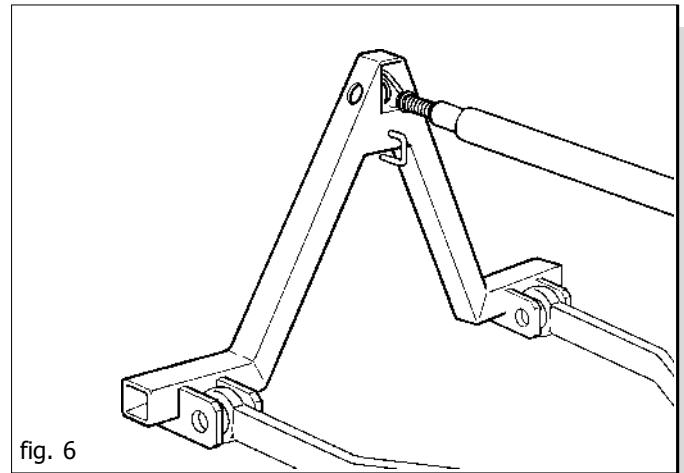

fig. 6
- 1) The tractor must be equipped with a frontal, 3-point lifting linkage onto which the triangular fixing is to be fitted. (Fig. 6).